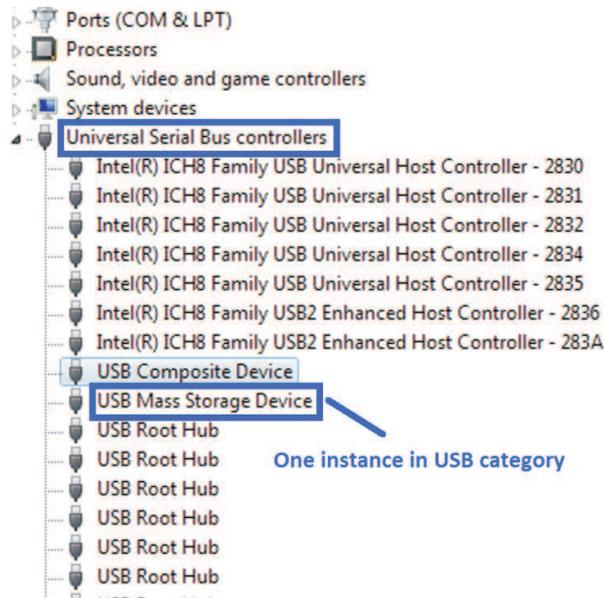

Figure 2-7. TUSB926x Device Instances on Mass-Storage-Only (No HID) Firmware
3. Mass-storage-only (no HID) (see Figure 2-7)